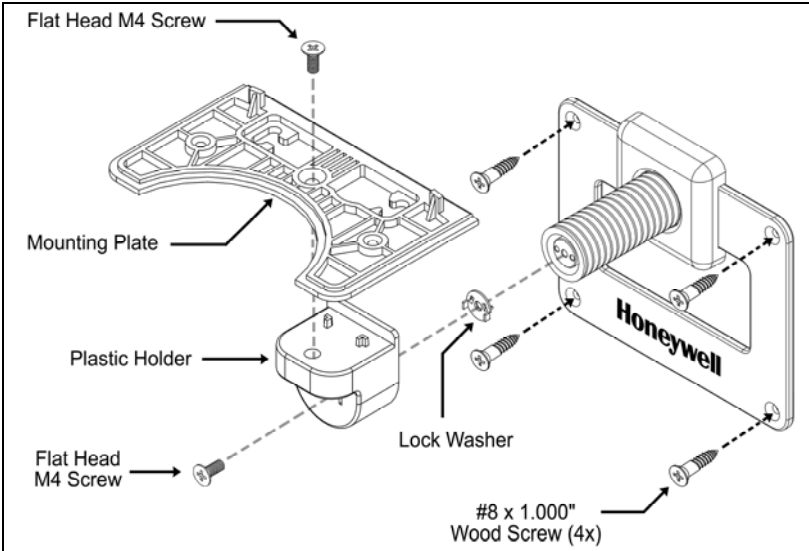

Figure 24. Scanner Mounting Plate Assembly
- Secure the wall mounting plate to the wall location designated in Step 1 and assemble the remaining parts as shown in *Figure 24*.